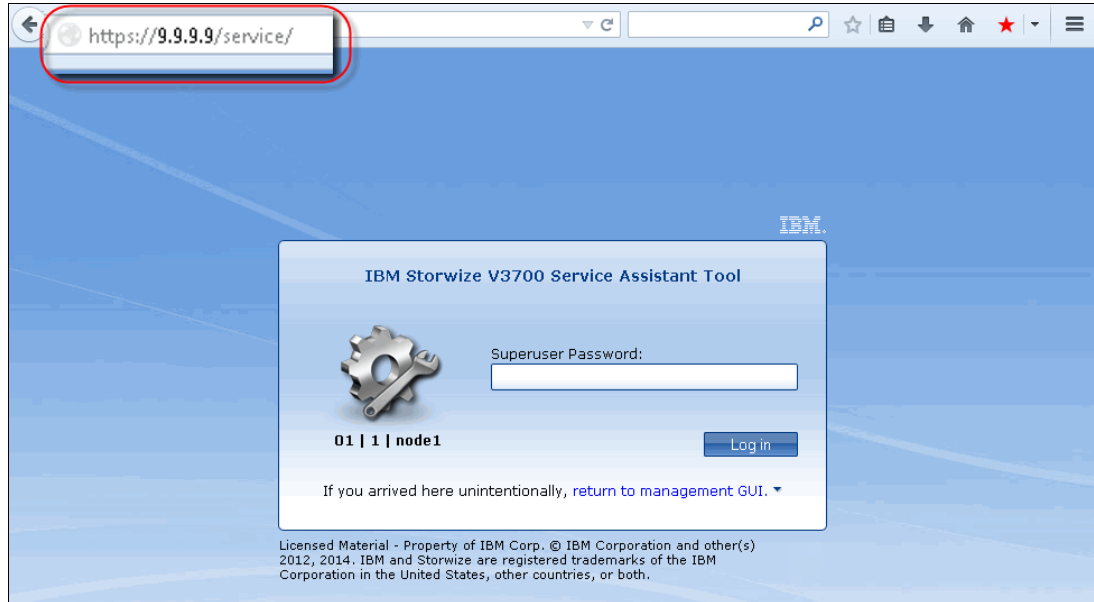

Figure 2-47 Service Assistant Tool login
1. When you are accessing SA by using `<cluster IP address>/service`, the configuration node canister SA GUI login window opens. Enter the Superuser Password, as shown in Figure 2-47.